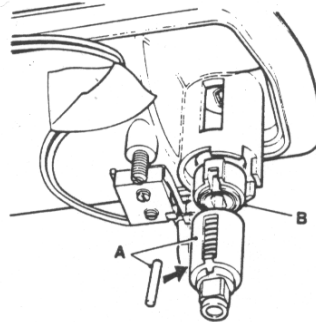

FIG. 4
- .Hold handle as in fig. 4 and carefully extract the lock barrel assembly and steel roller (fig. 4 A) from its housing.
- .Remove the shutter assembly, (fig. 4 B).